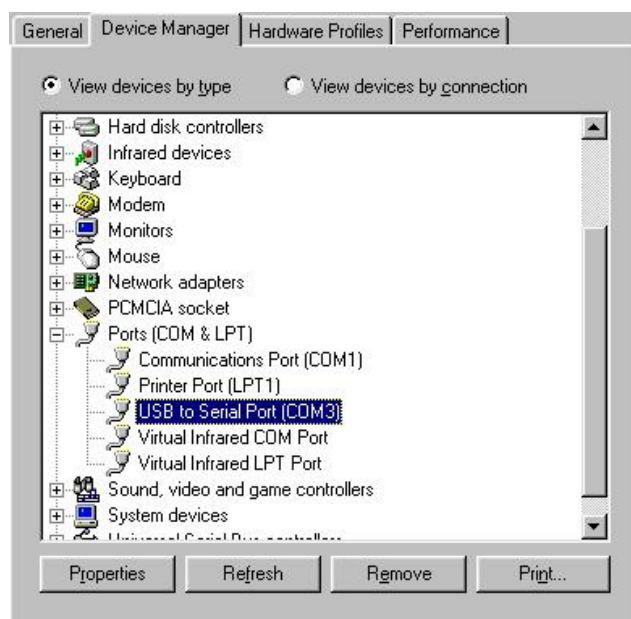

Fig. 8
2. Double click and run the installation file “**PL-2303 Driver Installer**” to install the USB driver. After installation, restart your computer, and you will find a “USB to Serial Port” driver in the Device Manager list, as shown in Fig. 8.
4. Connect the SynScan™ GPS mouse to the USB to MINI-DIN(F) cable and insert the USB connector into a USB port on your PC.
5. Double click to open “PGViewer.exe”, and set the communication port to match the port where the “USB to Serial Port” driver is installed in the Device Manager list. In the example shown in Fig. 8, this would be COM5.